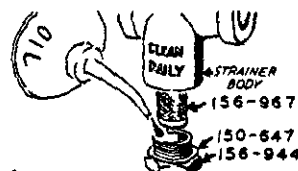

FIG. 4 AIR LINE STRAINER
4. Daily, with air pressure shut off and relieved, remove and clean screen in air line strainer 204-999 (accessory), if used. Add light oil to screen cavity in strainer nut. See Fig. 4.
6. Shut off air pressure to unit and relieve pressure in air line, before removing screen 156-967 in air line strainer 204-999 (accessory if used). Daily, clean this screen and at reassembly add light oil to screen cavity in nut 156-944. Refer to Fig. 4.